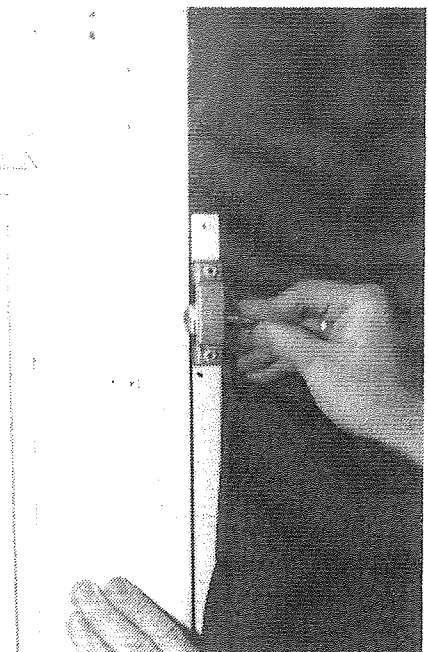

FIGURE 26
5. Lock in place with the two screen door sash locks. See Figure 26.
16. Step inside the trailer and release the top door retainers. Lock the screen door latch. Grasping the door frame with both hands, one on each side, lift up and remove from the door threshold and allow the door to tip inward. See Figure 26.